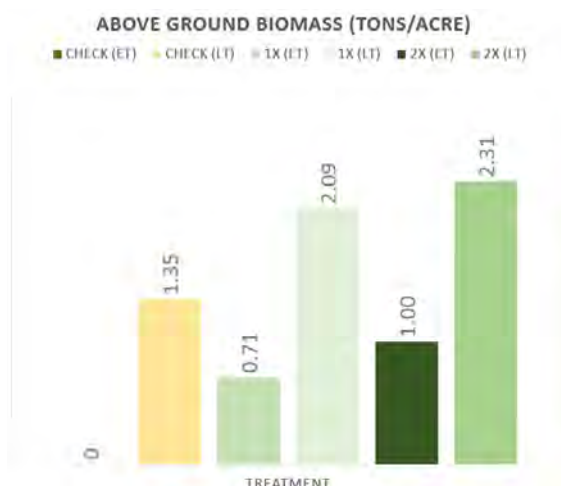

Figure 3. Above ground biomass expressed in tons/acre. Samples taken in silt loam soil.
The above ground biomass, expressed in tons/acre, compares the 3 seeding rates (check, 1X, 2X) and the earlier terminated treatments (ET) to the later terminated treatments (LT) (Figure 3). ET treatment measurements were taken on 4/26/21, and the LT treatments were taken on 5/17/21, both were sampled just prior to termination of the respective treatments. The treatments were then planted with the cash crop (corn) shortly after 5/17. In general, the ET treatments produce less above ground biomass than the LT treatments and the 2X, LT treatment produced the most biomass of all treatments.